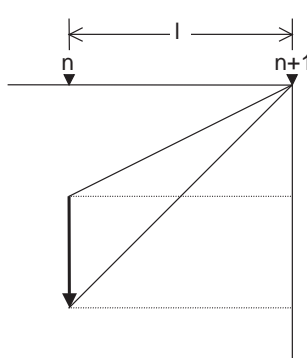

Fig. 2.3
(3) In feeding from division  $n+1$  to  $n$  when the machine is in the negative direction from the reference position, as shown in Fig. 2.3,